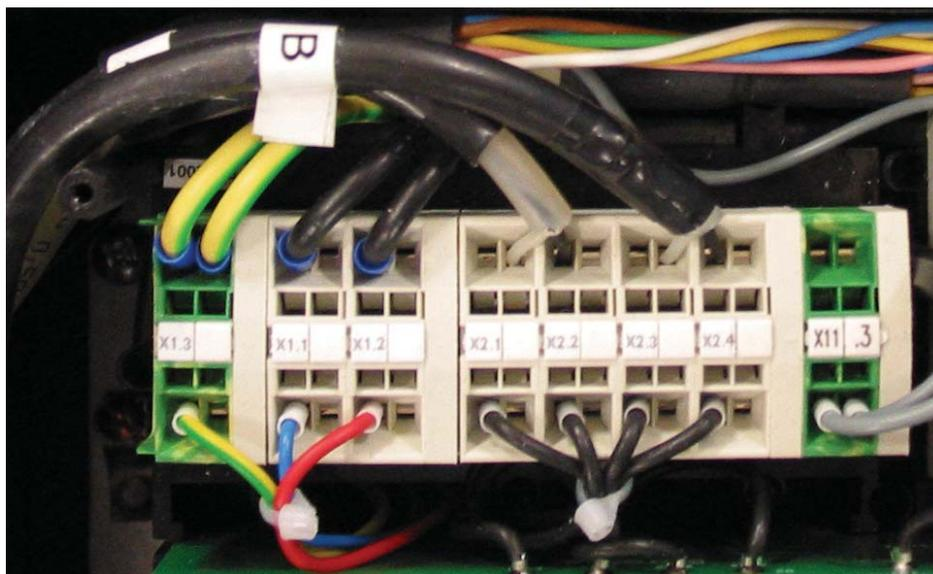

Figure 3-2. HDLC Cable Connections to Last FB ISCM Base/Redundancy Unit
- ◆ Install the HDLC cables from the FCP/FCM to the ISCM redundancy unit (see Table 3-3 on page 39). See Figure 3-2 for cable details.